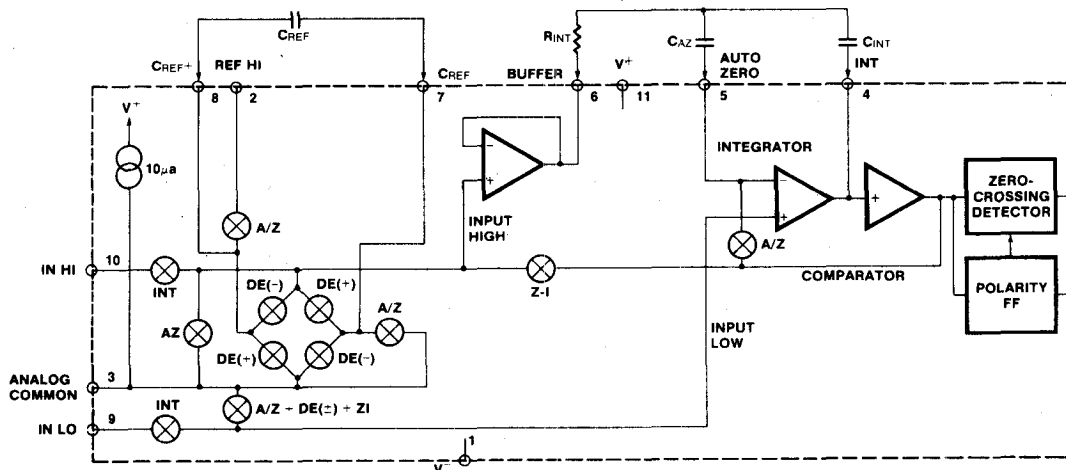

Figure 3: Analog Section of ICL7135
Figure 3 shows the Block Diagram of the Analog Section for the ICL7135. Each measurement cycle is divided into four phases. They are (1) auto-zero (A-Z), (2) signal integrate (INT), (3) deintegrate (DE) and (4) zero integrator (ZI).